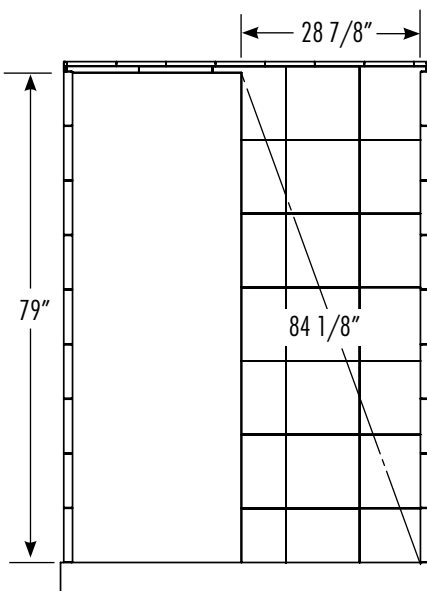

figure 31
2. Using rubber setting blocks provided adjust the side panel until the door opening matches the dimensions given in (fig. 31). The setting blocks are small, clear, plastic blocks that are in a small baggy. The top of the glass panel should be 79" from the top of the shower pan threshold. This will allow the door to have the correct 3/8" gap for the door sweep. The edge of the panel to the opposite door threshold should be 28 7/8". Take all measurements from outside edges of glass. The glass channels in the shower pan and wall thresholds will hold the glass in place while dry-fitting the panels and door.